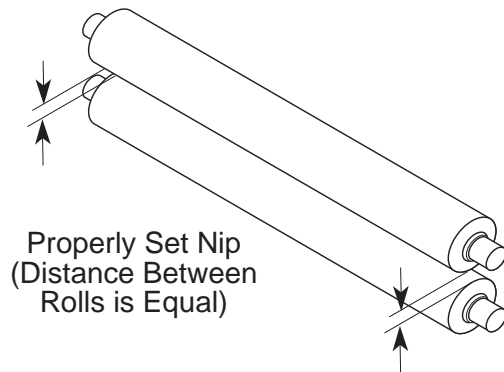

Figure 4-5: Properly Set Nip
- Adjust the nip by turning the adjusting bolt using an $\frac{3}{4}$ " open end wrench (clockwise to lower the roll end and counter clockwise to raise the roll end). Adjust the ends of the upper main roll until there is an even gap between the rolls as shown in Figure 4-5.